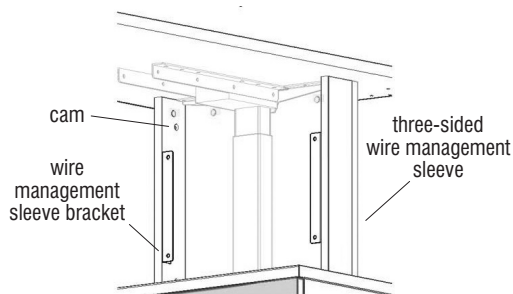

Figure 8
4. Align the cam holes on top of the three-sided wire management sleeve with the heads of the shoulder pin screws. With the assistance of a second person, have one person lift the sleeve up against the worksurface so the shoulder pin screws insert into the cam holes, then the second person turns each cam clockwise with a Phillips screwdriver to lock the sleeve in place under the worksurface (Figure 8).